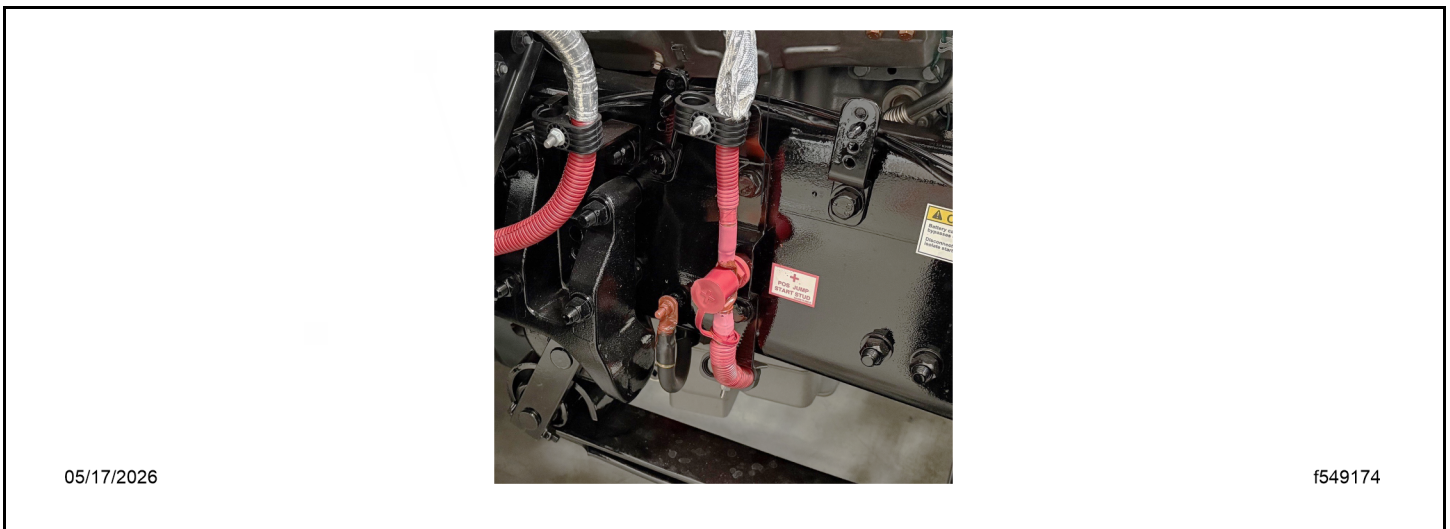

Fig 49, Isolated Battery Junction with Jump-Start Post
5. Locate the isolated positive (+) battery stud mounted on the frame behind the front wheel. See Fig. Fig. 49.